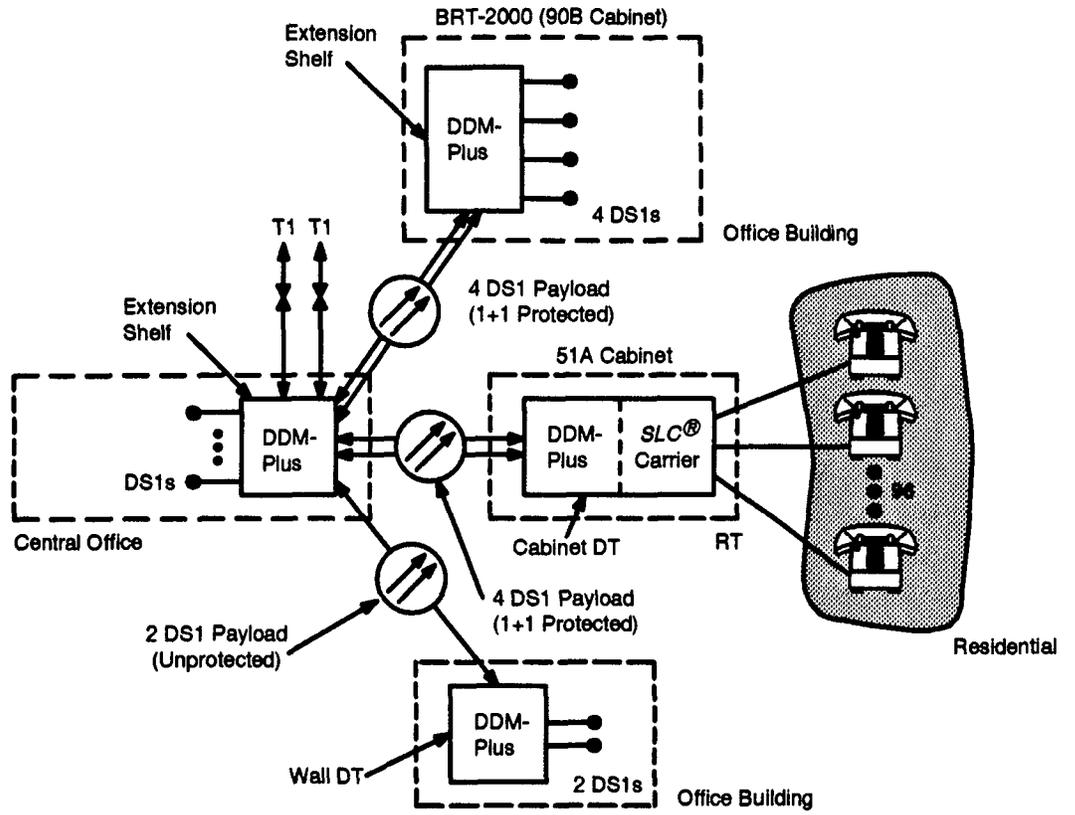
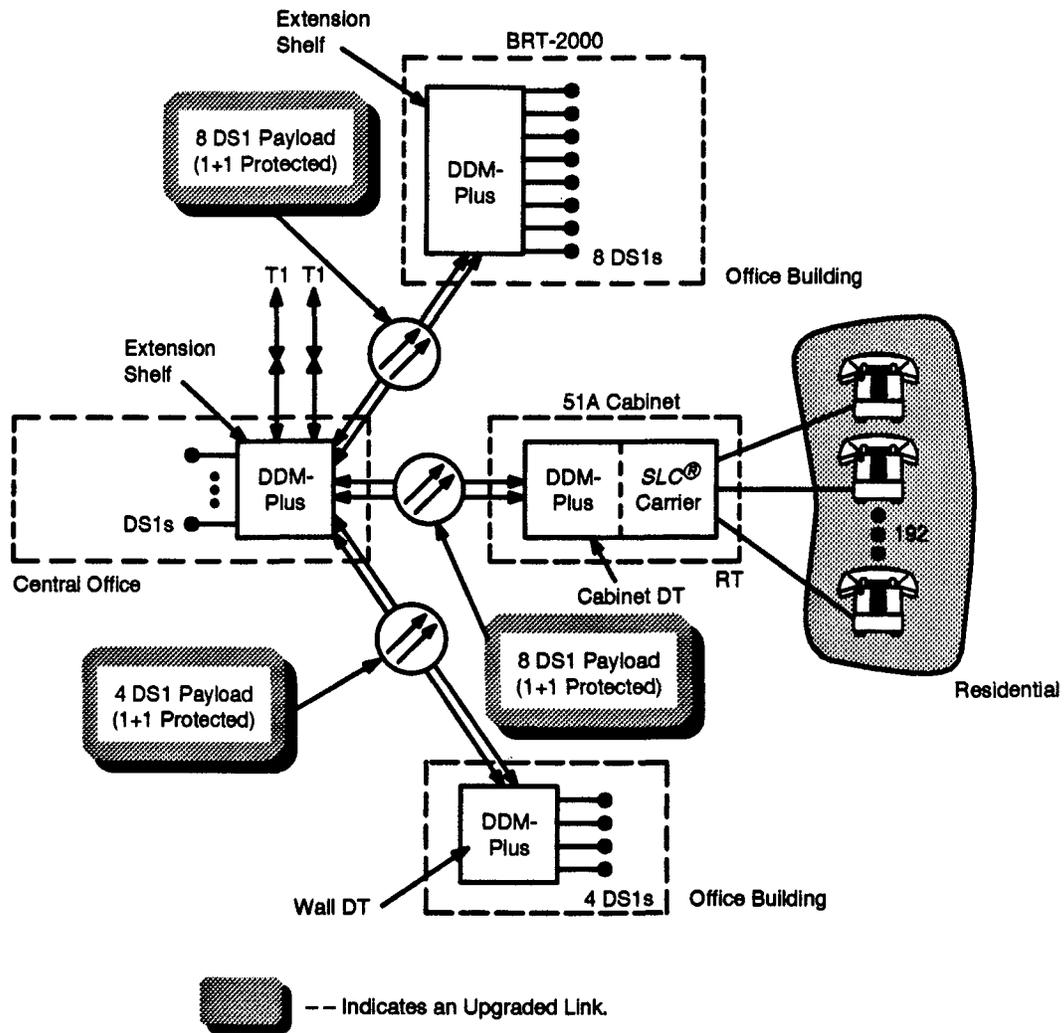
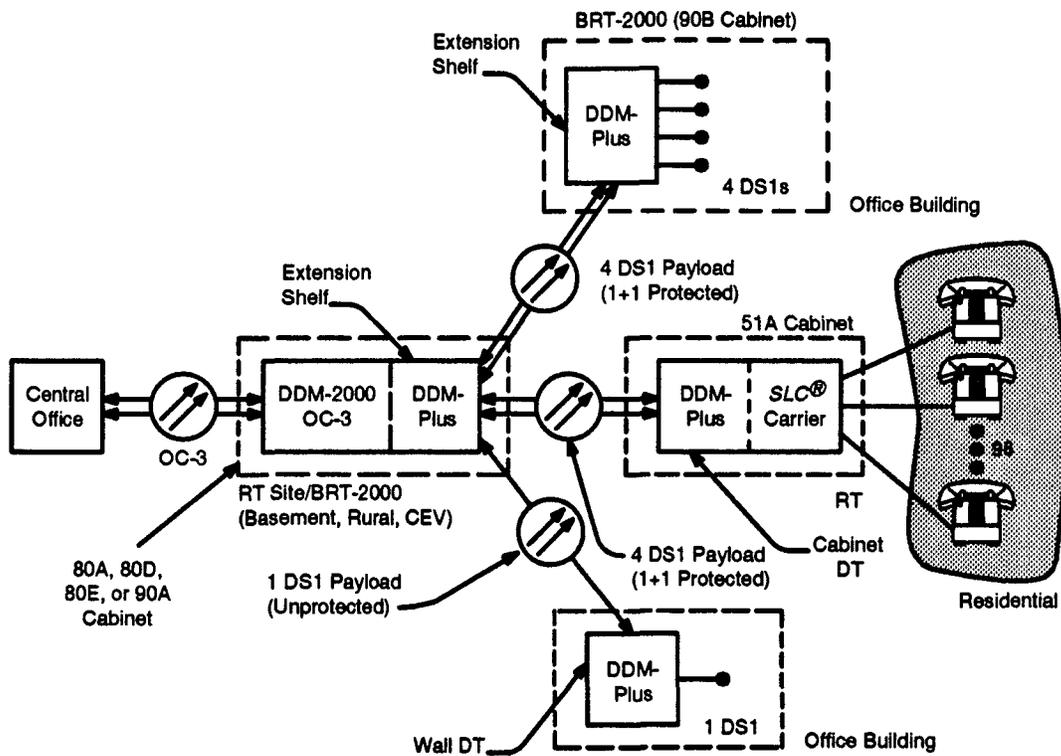
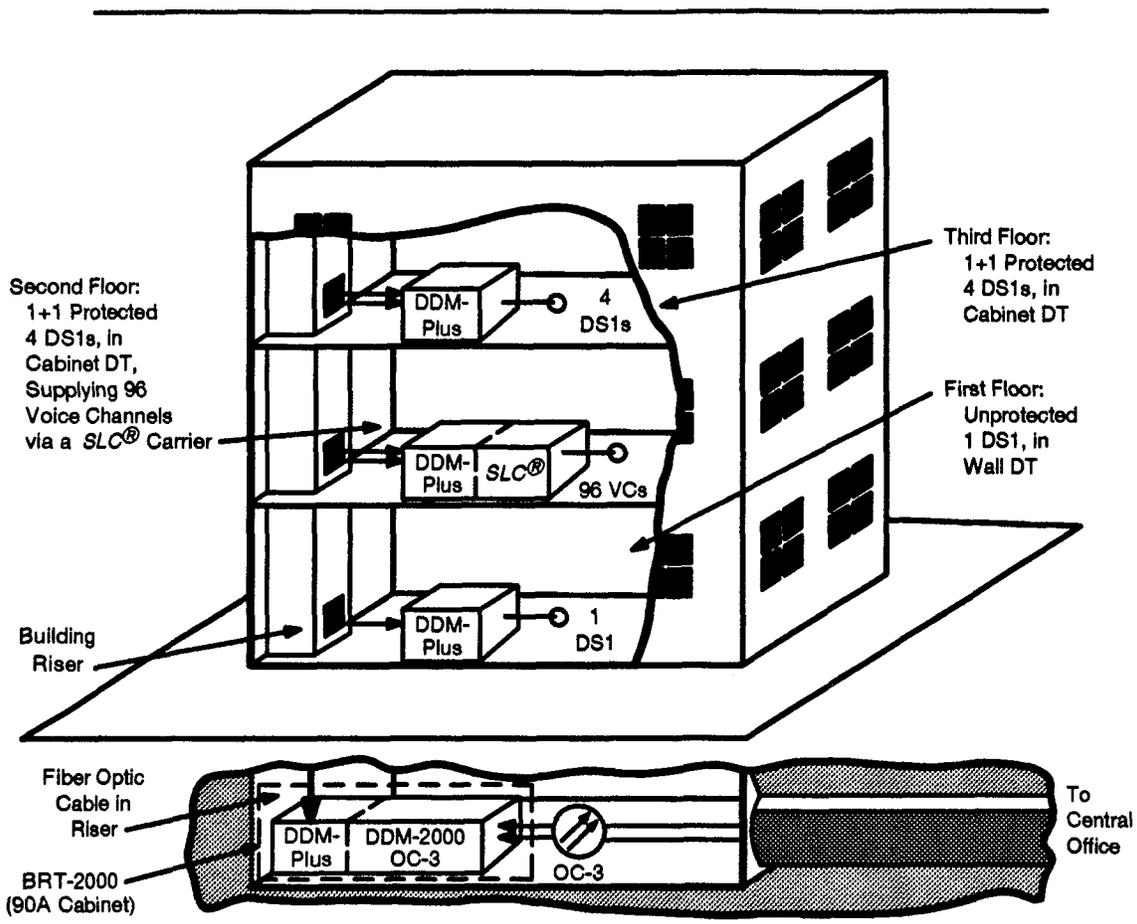

Figure 2-1. DDM-Plus Hubbing Application
Figure 2-2. Upgrading DDM-Plus Hubbing Application
Figure 2-3. DDM-Plus Remote Hubbing Application
Figure 2-5. DDM-Plus Remote Hubbing Application in High-Rise Building
Hubbing is a primary application for the DDM-Plus. Figure 2-1 shows a central office-based hubbing application where a DDM-Plus unit at the central office supplies three separate end-user locations. The first DDM-Plus carries four 1+1 protected DS1s to an office building. The second DDM-Plus carries four DS1s on a 1+1 protected fiber link to a *SLC*[®] carrier bank that supplies 96 voice channels to a residential area. The third DDM-Plus delivers two DS1s to an office building using an unprotected optical facility. The DDM-Plus at the central office is also providing two T1 lines. Supplying a single business with both telephone and DS1 service is common. This example shows some of the capacities, methods of protection, and types of end-users that might be found in a typical installation.
An important part of any application is the ability to upgrade capacity. Figure 2-2 shows a possible upgrade for the central office-based hubbing application. The topology of Figure 2-2 is unchanged from the initial installation of Figure 2-1, but several changes in capacity and line format have been made and are highlighted in Figure 2-2. The first DDM-Plus has been upgraded from carrying four DS1s to eight DS1s in a 1+1 protected arrangement to an office building. The second DDM-Plus has been upgraded from carrying four DS1s to eight DS1s in a 1+1 protected arrangement to a *SLC* bank. The third DDM-Plus has been upgraded from two to four DS1s and is now 1+1 protected. For the third DDM-Plus System, another fiber facility will be needed to provide the 1+1 protection. These upgrades can take place without affecting service to the end-user.
The remote hubbing application has one obvious difference from the previous hubbing application (Figures 2-1 and 2-2). The basic difference is that the hub is located in a remote terminal (RT). At this RT site, the DDM-Plus hub interfaces with the DDM-2000 OC-3 that is in turn connected, using an OC-3 link, to the central office. The RT site can be located in one of many locations including a building's basement, a controlled environment vault (CEV), or a rural cabinet.
The services provided in an RT hubbing application are exactly the same as those provided by the central office-based hubbing application. Figures 2-3 and 2-4 are similar to Figures 2-1 and 2-2 with the exception that several of the line capacities have been changed. This has been done to emphasize the wide range of DS1 capacities desired by end-users.
The remote hubbing topology presents itself in several different scenarios including high-rise buildings, office parks, and campus environments. The high-rise building application in Figures 2-5 and 2-6 uses the same topology, services, and upgrades already described in Figures 2-3 and 2-4. A primary benefit that the DDM-Plus provides is "riser relief"; that is, it reduces the amount of cable congestion in the building riser.